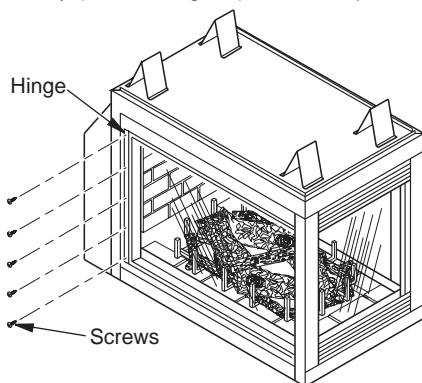
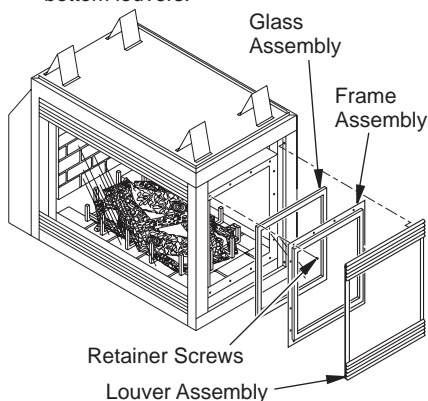

Figure 57 - Removing Glass Door
Figure 58 - End Panel Replacement
- If glass is broken, wear gloves and tape remaining fragments onto frame. Remove 5 screws located on end of firebox while holding frame assembly to prevent it from falling and causing injury (see Figure 57). Mount new frame at hinge with 5 new screws. Close and latch door. This will seat gasket. If replacing end glass panel, remove 16 screws around frame (see Figure 58). To insure proper fit, when installing new glass panels make sure seam in gasket is placed in the down position.